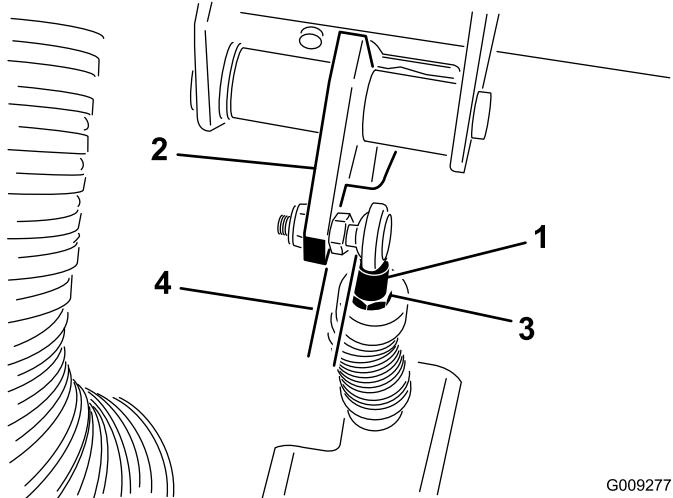

Figure 66
**Important:** Ensure that the rod end is positioned squarely on the ball, not twisted, and remains parallel to the clutch pedal after the jam nut is tightened (Figure 66).